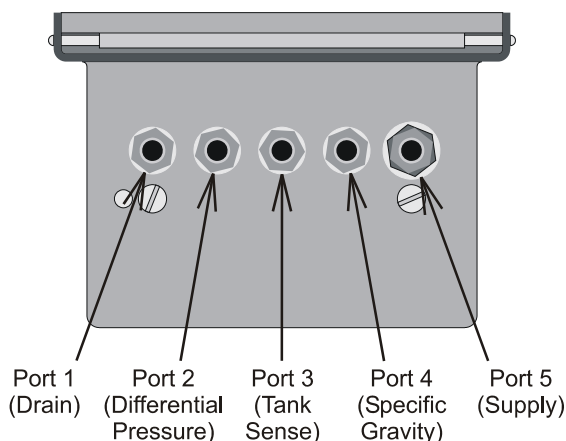

Figure 22 Bottom View of LevelCom 100
2. Connect a fitting to **PORT 1 DRAIN** on the LevelCom 100 if there is not already a fitting in place (Refer to **Figure 22** for